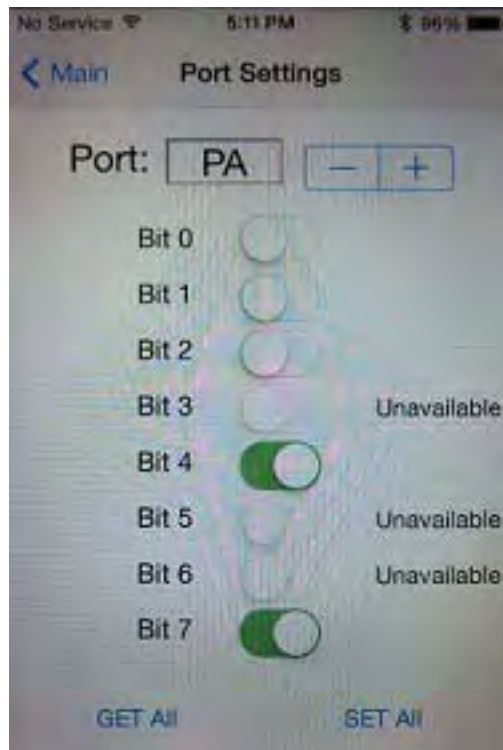

Figure 24. Port Settings Screen
6. To perform a quick test, tap **Port Settings** to display the screen shown in Figure 24.